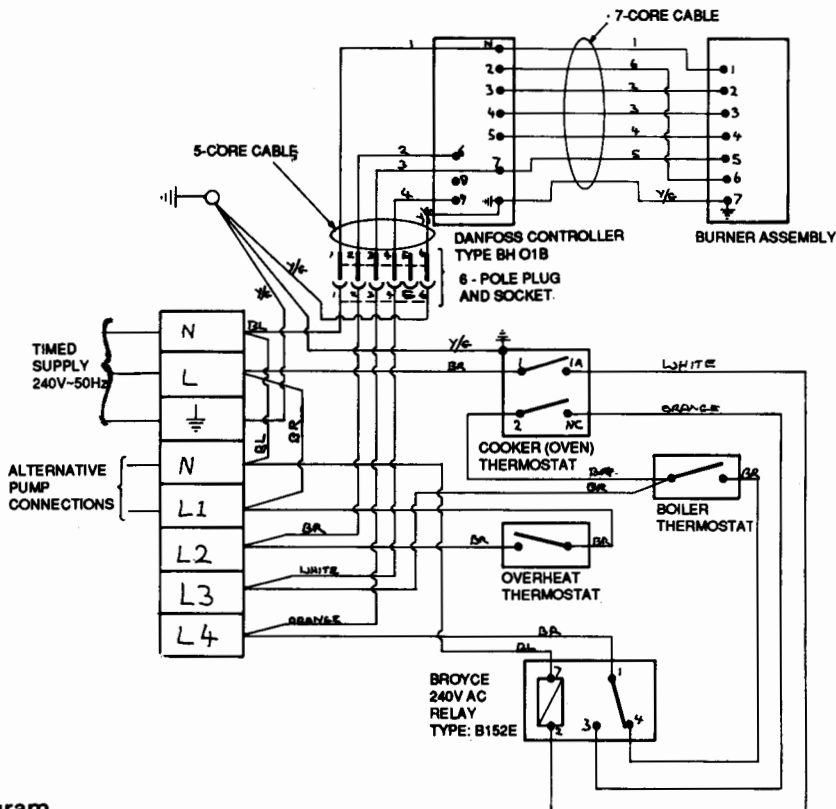

Fig.19 Wiring Diagram.
- Fit replacement thermostat and assemble in reverse order of removal. Electrical leads to be reconnected as previously (see fig 19 for connections).
- Fit replacement thermostat and assemble in reverse order of removal. Electrical leads to be reconnected as previously (see fig 19 for connections). The boiler and overheating thermostat phials should be assembled together before fitting into the pocket.
- g. Fit replacement thermostat and assemble in reverse order of removal. Electrical leads to be reconnected as previously (see fig 19 for connections). The boiler and overheat thermostat phials should be assembled together before fitting into the pocket.
4.3 Control Circuit Description - see fig 19 for wiring diagram.